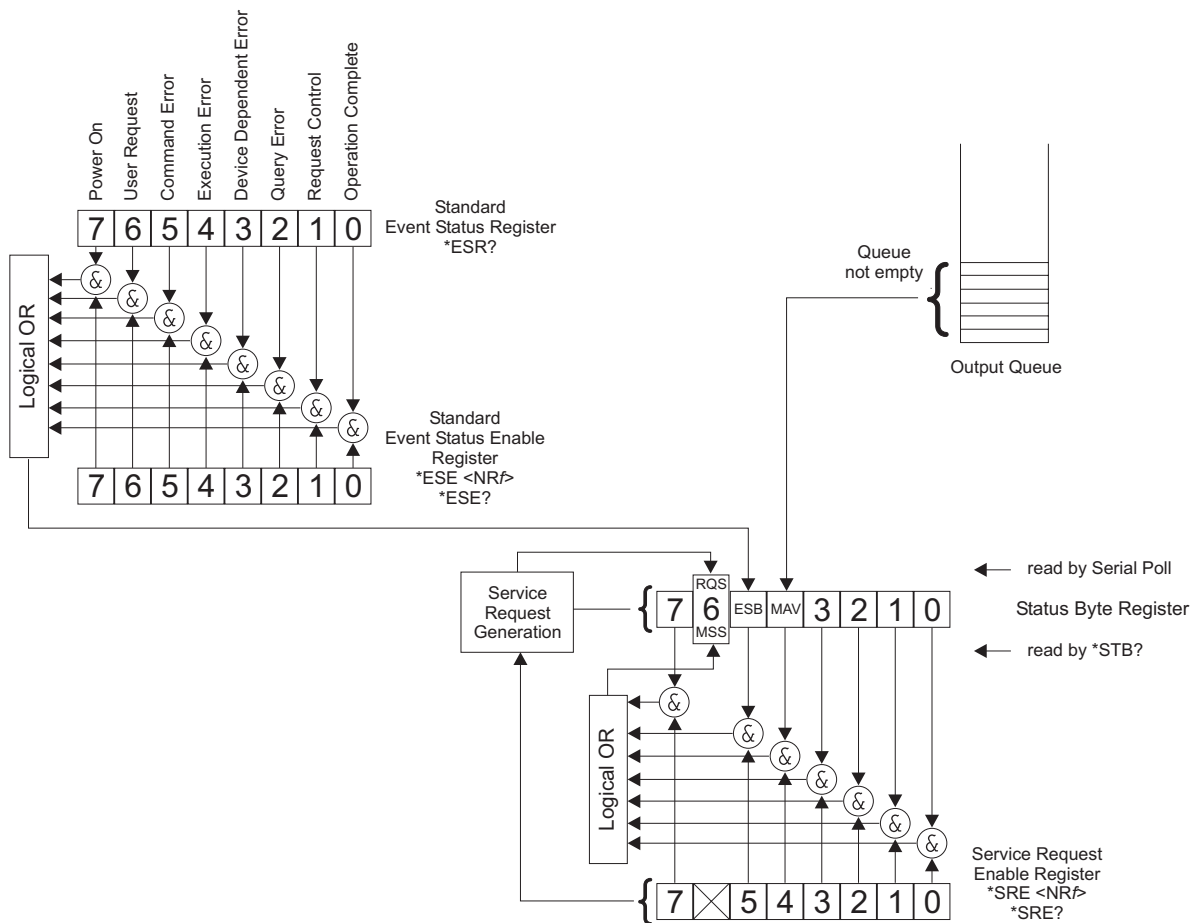

Figure 6-2. IEEE 488.2 Standard Status Structures
Also refer to Figure 6-2, page 6-13, *IEEE 488.2 Standard Status Structures*.
**Remarks:** Sets the Standard Event Status Enable Register bits (see Figure 6-2):